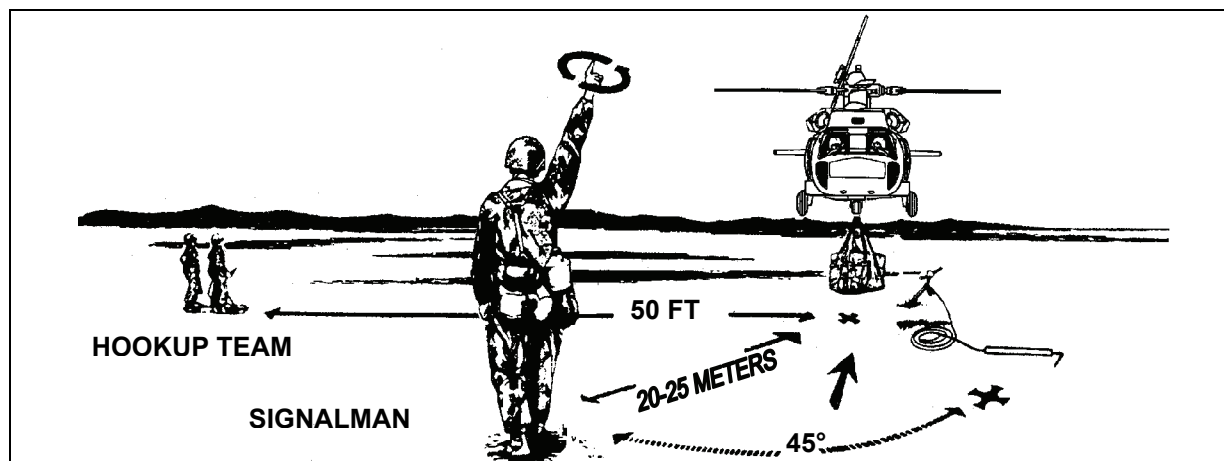

Figure 5-7. Ground Crew Position During Helicopter Takeoff
- When the load is 10 to 20 feet higher than the surrounding loads or obstacles, the signalman gives the takeoff signal in the direction he wishes the pilot to depart the landing site. When pointing, the signalman steps off in the same direction as he is pointing to make his signal more pronounced. He then moves out of the way so the helicopter does not pass directly overhead. After the pilot completes any required aircraft checks, he departs the area (Figure 5-7).